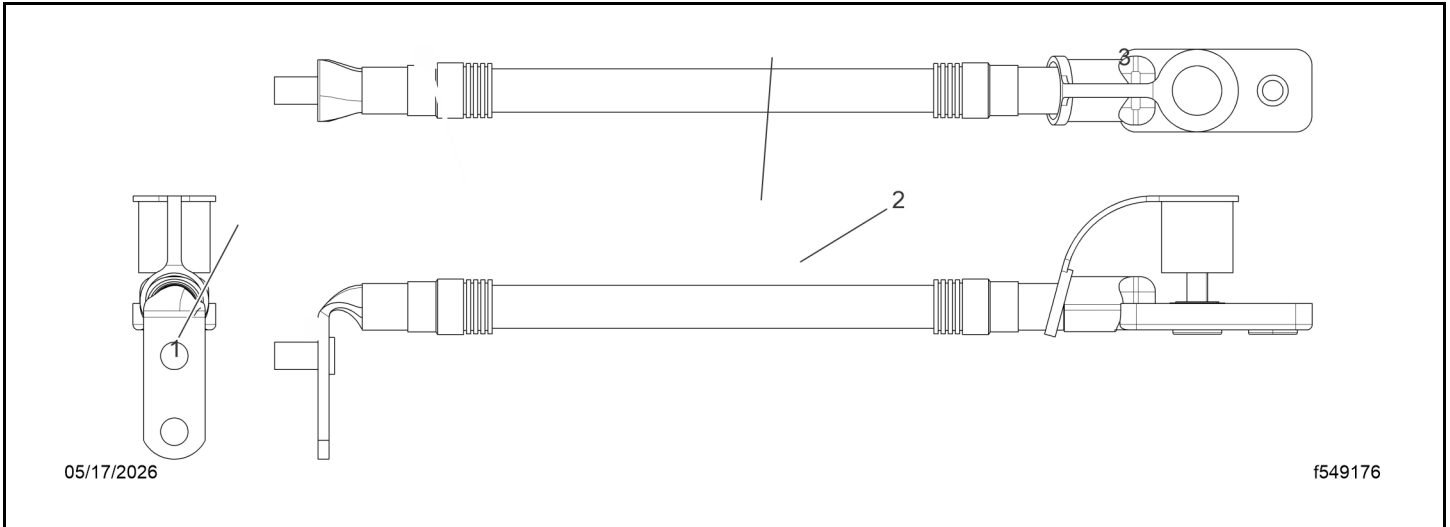

Fig 62, Jump-Start Cable Orientation
- g. Position the new terminal according to the orientation drawing. See Fig. Fig. 62.